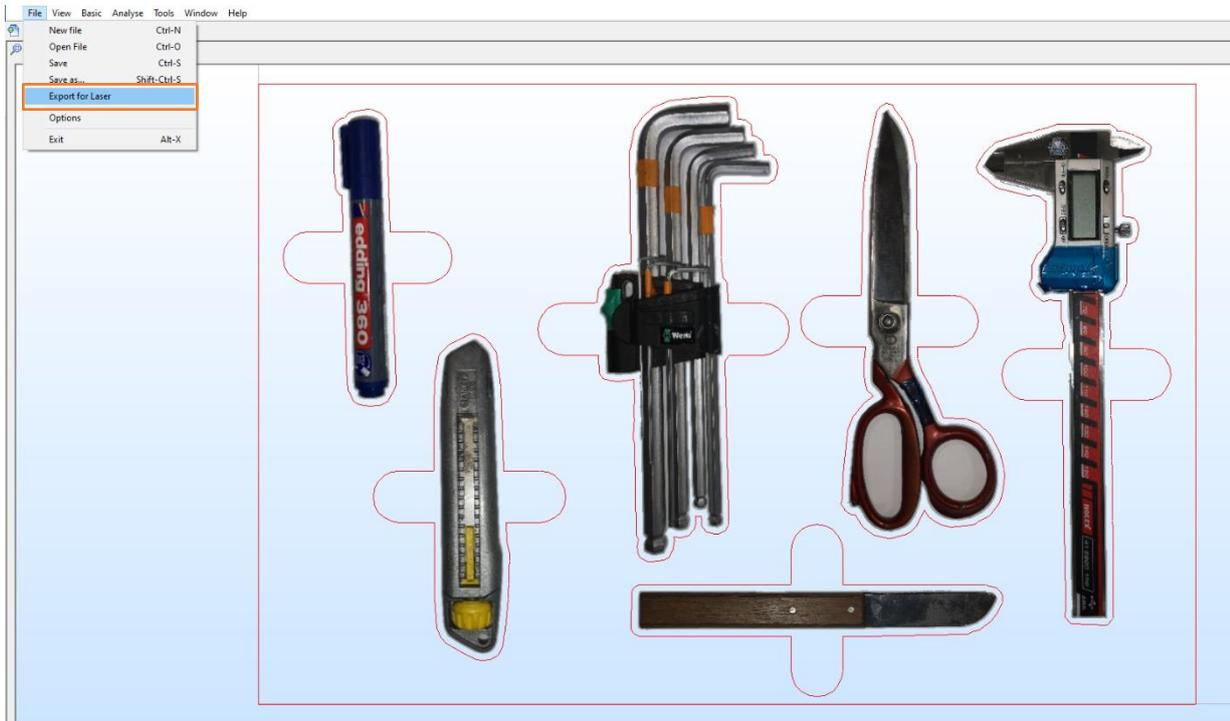

Figure 424
3. **EXPORT FOR LASER:** NestKing also offers an *[Export for laser]* function in the File tab (Figure 424). With this function only the generated tool contours and other geometries like foam insert boundary as well as text objects are saved into our export file. This file can be directly used for laser cutting.